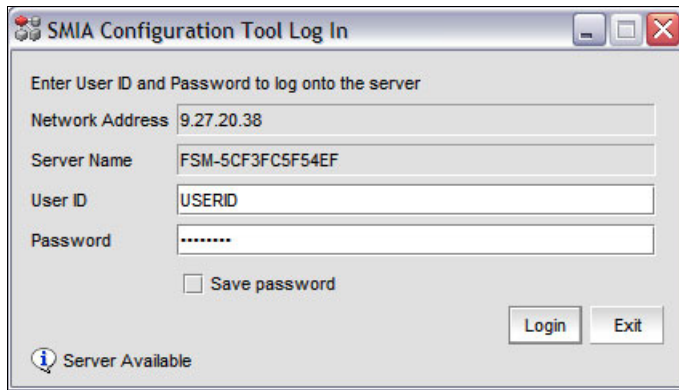

Figure 6-160 SAN switch login window
5. Enter the SAN switch credentials as shown in Figure 6-160.